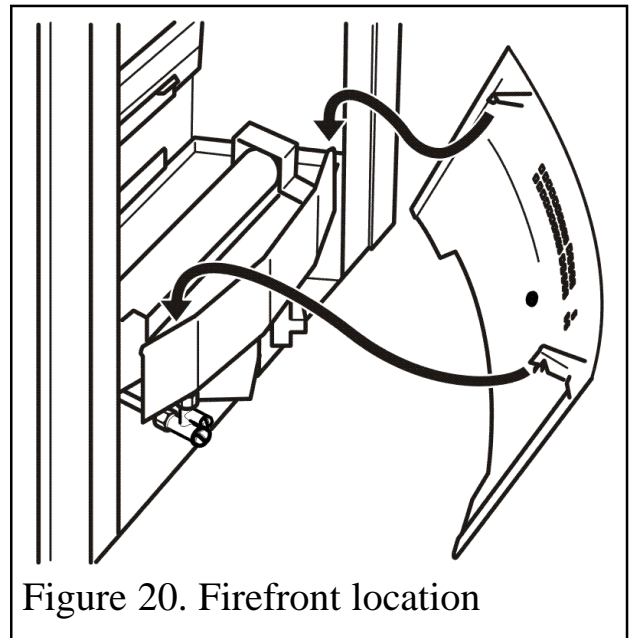

Figure 20. Firefront location
1. The rear of the firefront has two hanging brackets. Hook the hanging brackets over the top of the burner baffle (See figure 20).